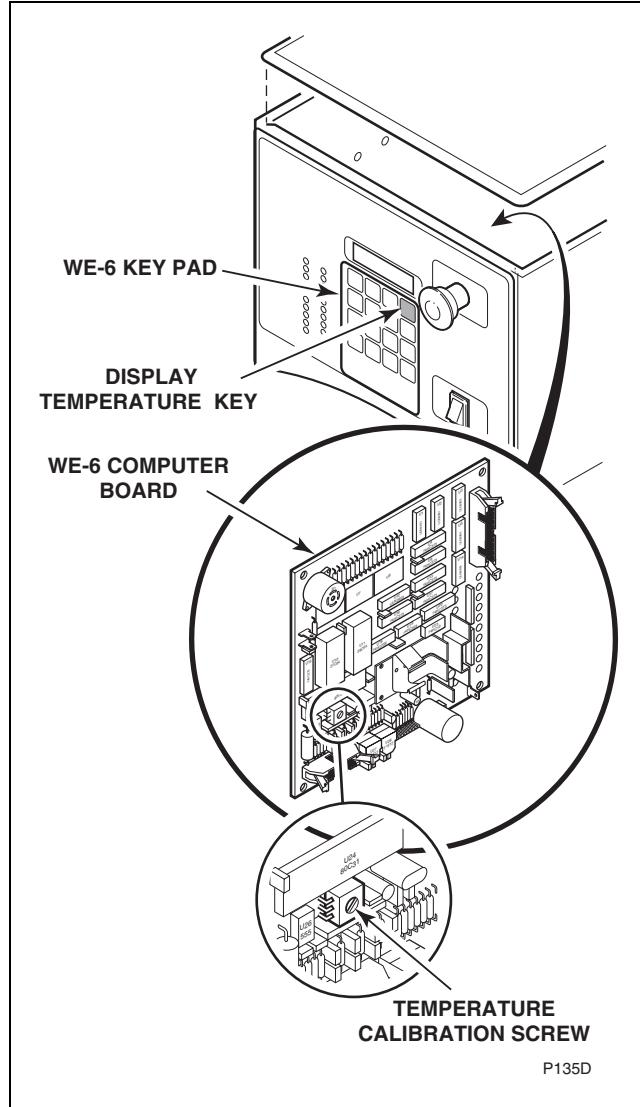

Figure 11
- d. Looking at the lower left of the computer board from the rear of the washer-extractor, find the 1/2 inch x 1/2 inch (13 mm x 13 mm) square blue component with a white plastic screw head in its center. This is the temperature calibration potentiometer. Turning the screw head adjusts the temperature reading. Refer to *Figure 11*.
- (1) Wash 3 for 10 seconds.
- (2) Cold fill to high level.
- (3) Wash 3 for 9 minutes, 99 seconds.
g. Start the cycle and, when the high water level is reached (and the external temperature sensor is submerged), press the "Display Temperature" key on the WE-6 keypad. Refer to *Figure 11*. The display will show a temperature.